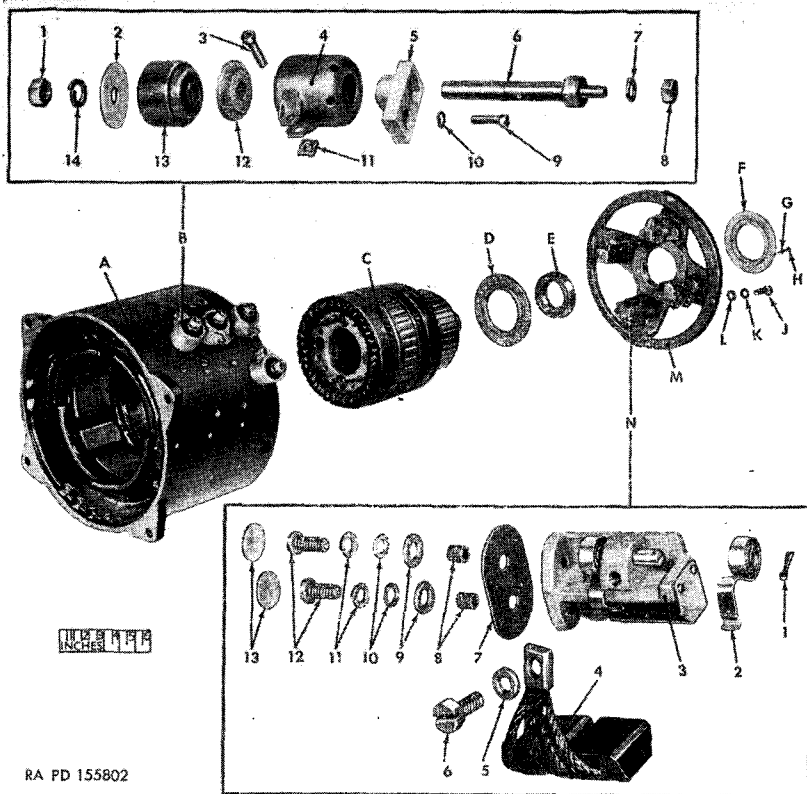

Figure 93. Generator—exploded view.
l. Remove coil terminal nut and lock washer and detach coil connector from terminal stud (fig 93).